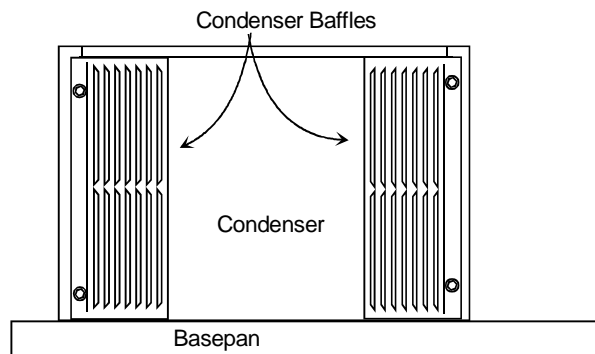

Figure 1
- Locate the baffles on the condenser coil flange as shown in Figure 1. Position the louvers to direct the air toward the center as the air leaves the coil.